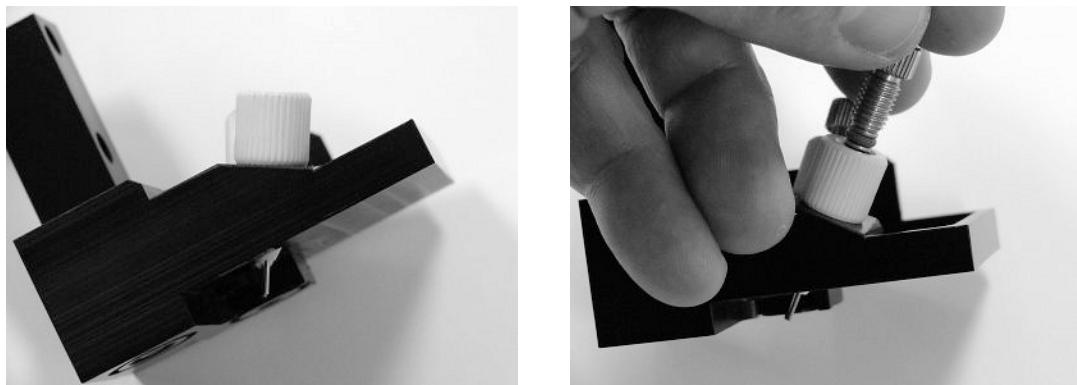

Figure 4-22: Reinstalling the injector heads and tubing
① Be sure to seat the injector tips securely when reinstalling. See Figure 4-22 on page 71.